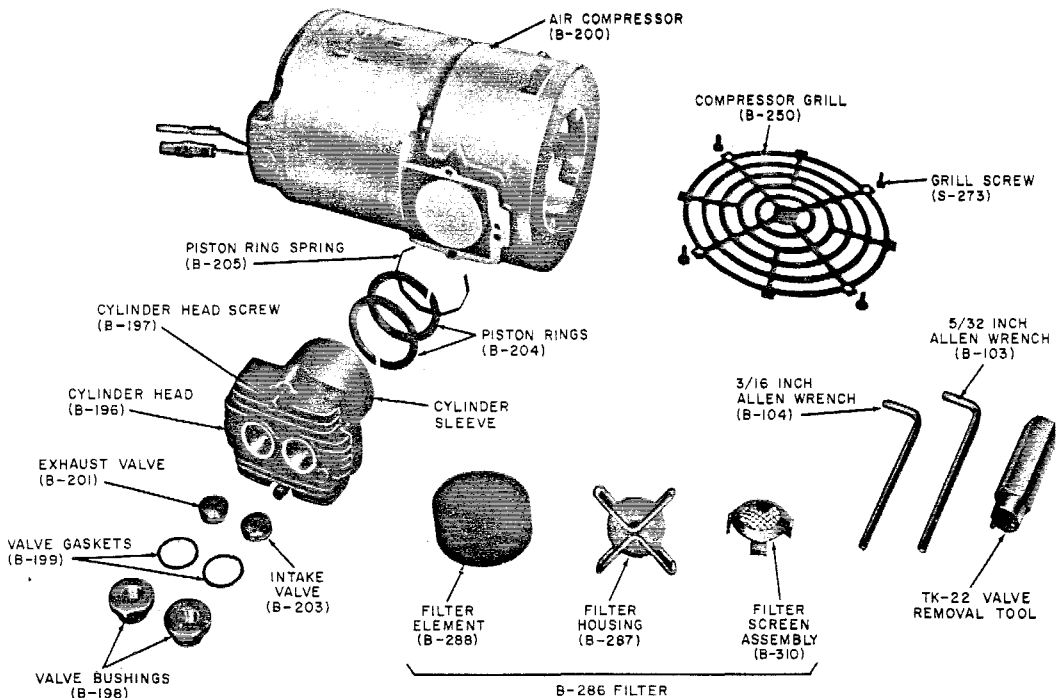

Fig. 2—B-200 Air Compressor—C Air Dryer
- (1) Disconnect one side of the alarm pair at the fuseless protector to prevent false operation.
- (2) Replace the silica gel in the main gel tower (see 2.05).
- (3) Drain the water from the condensate receiver (see 2.06).
- (4) ***B Air Dryer Only:*** Replace the diaphragm and valve gasket of the air compressor (see 2.07).
- (5) ***Annually on the C Air Dryer:*** Replace the air compressor piston rings, ring spring, valve gaskets, and intake and exhaust valves (see 2.08).
- (6) Replace the B-288 filter element (Fig. 2) in the filter housing on the air compressor. (The polyurethane filter element is of a soft spongy material that is easily compressed for placing in or removing from the housing.) (See 2.07 and 2.08.) Before placing the new element, brush the B-310 filter screen assembly and wipe it with a clean dry cloth. (The formed wire filter screen improves air flow distribution through the element and prevents holes from forming in the element.)
- (7) ***Annually on B Air Dryer Serially Numbered 1 to 1718 Only:*** Clean and repaint the refrigeration suction and charging tubing with Rust Oleum (see 2.21).
- (8) Check the operation of the humidity alarm (see 2.10).
- (9) Observe that the heat-exchange temperature (see 2.11) and pressure (see 2.12) are cycling within proper limits.
- (10) Check the output air pressure at the pressure-testing valve on the regulator and adjust if necessary (see 2.16).
- (11) Check for leakage within the dryer with the 5-minute test described in 2.09.
- (12) Place or remove the Celotex damper as necessary to meet seasonal requirements (see 2.20).
- (13) Verify during cold weather operation that the interior of the cabinet is being maintained at a temperature of at least 45° F (see 2.19).
- (14) Verify during warm weather operation that the ventilating fan is operating when the temperature inside the cabinet exceeds 80° F (see 2.18).
- (15) Reconnect the alarm pair at the fuseless protector when all work has been completed.
(4) Remove the bolt from the top diaphragm clamping plate, using the 5/32-inch Allen wrench provided.
(5) Lift off the diaphragm. If it sticks, pry it loose at the notched corners.
(6) Check all surfaces for dirt accumulation because it is important to keep all valve passages clean.
(7) Replace the main diaphragm and bolt it securely in place with the 5/32-inch Allen wrench.
(8) Make certain that the compression casting is in the position shown in Fig. 2, with the large shallow hole on the **right** side of the top face. A similar hole (not shown in the illustration) on the underside of the top casting should be aligned on the **left** side when properly assembled.
(9) Reassemble the compressor head and tighten the four head bolts with the 3/16-inch Allen wrench. Tighten on a progressive gradual basis from bolt to bolt so as to avoid warping the compressor head.
(10) Replace the two Allen wrenches under the clamp on the fan guard.
(11) Replace the B-288 filter element. Before placing the new element, brush the B-310 filter screen assembly and wipe it with a clean dry cloth.
(12) Check for leakage in the dryer itself (see 2.09).
2.08 This unit (shown in Fig. 2) requires no lubrication. However at each scheduled inspection the B-288 filter element shall be replaced and the B-310 filter screen assembly shall be brushed and then wiped with a clean dry cloth. At annual intervals the piston rings, ring spring, valve gaskets,